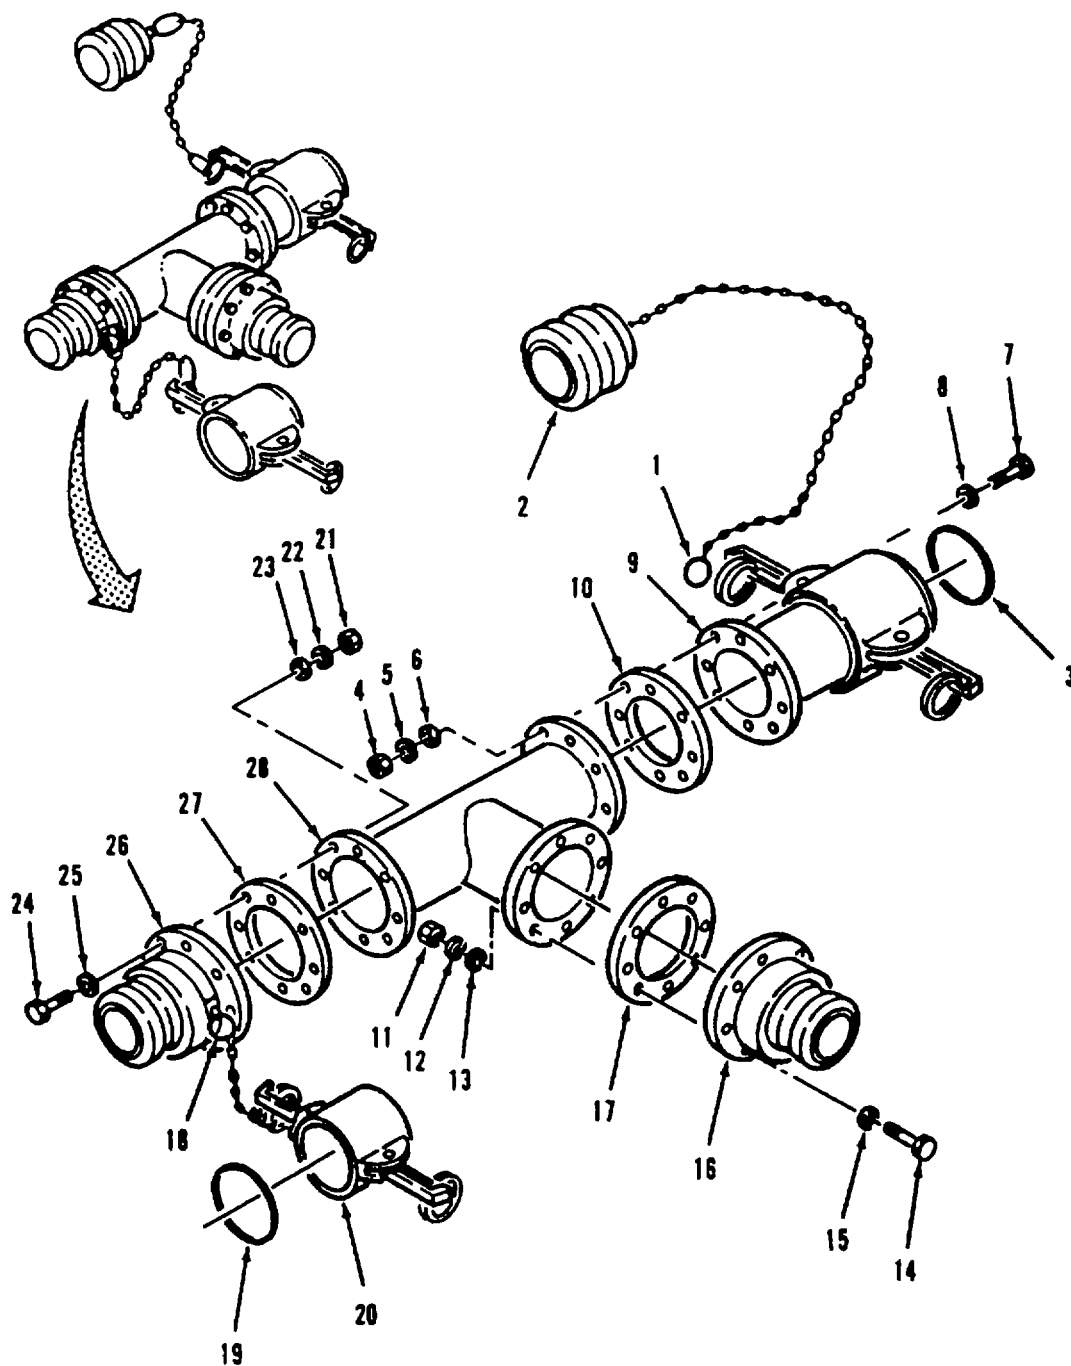

Figure 4-9. Tee Assembly (9117-Y1) Assembly
- (1) Inspect male couplings (16 and 26) for cracks.
- (2) Inspect female coupling (9) for cracks and damaged lock arms.
- (3) Inspect tee (28) for cracks and corrosion.
e. Assembly. Refer to Figure 4-9.
- (1) Position gasket (27) and male coupling (26) on tee (28).
- (2) Install eight flat washers (23 and 25), bolts (24), lockwashers (22) and nuts (21).